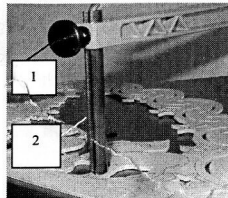

Fig. 8
Slacken knurled screw (1) and push upper guide (2) upwards. (Fig. 8)
Guide workpiece through the hole onto the fretsaw blade. Push upper guide (2) onto the workpiece and fasten with the knurled screw (1). (Fig. 8)